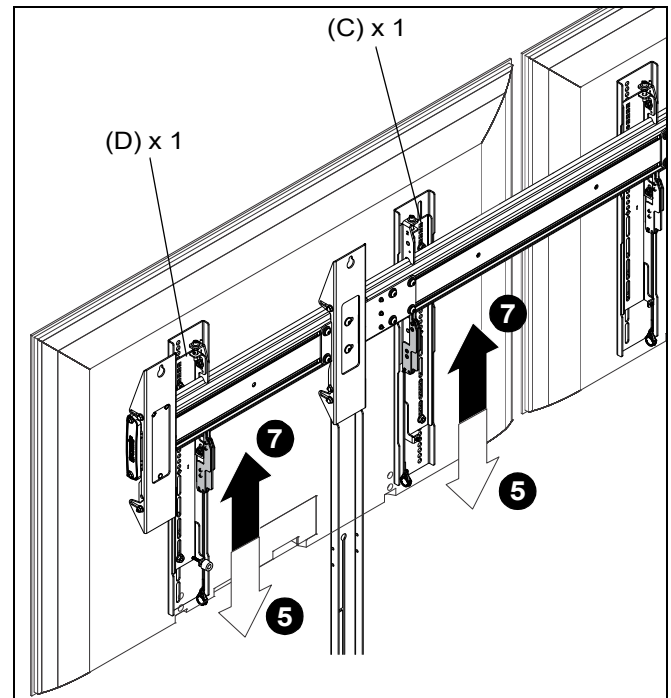

Figure 24
13. While supporting both sides of display, lower display onto center of mounting rail, hooking top of interface brackets onto top of mounting rail. (See Figure 24)
14. Ensure that the latch mechanisms on interface brackets (C/D) are lowered to get the interfaces out of the service position. (See Figure 24)
15. Release the spring-loaded latch mechanism on both interface brackets to lock bracket in place on the rail. (See Figure 24)